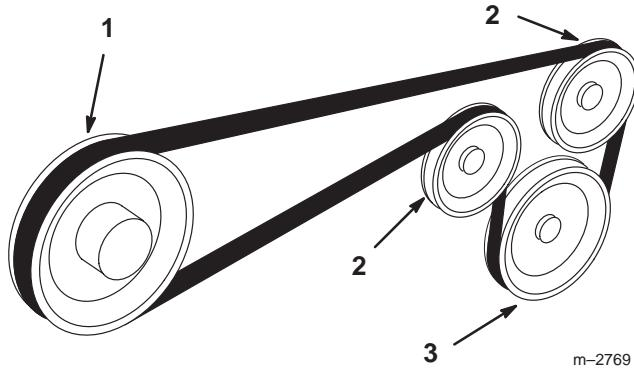

Figure 16
22. Route belt around idler pulleys (Fig. 16).
23. Rotate idler bracket to stretch spring and slip belt over snowblower pulley (Fig. 16),